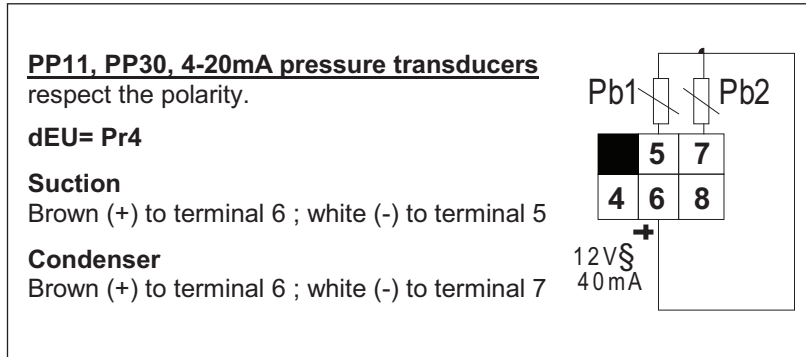

Figure 4a – Wiring Diagram for 4-20 mA Pressure Transducer
- 4-20mA pressure transducers (refer to **Figure 4a**)